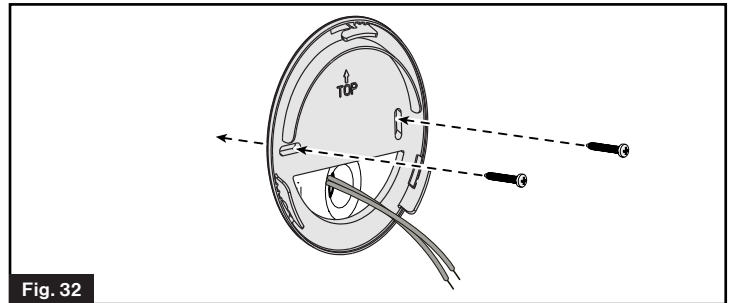

Fig. 32
1. Install the back cover of the wall controller over the 3/4" hole. Make sure the arrow mark is facing up. Fix the back cover on the wall using 2 - #8 (min 1") pan head screws (not provided). (Fig. 32)